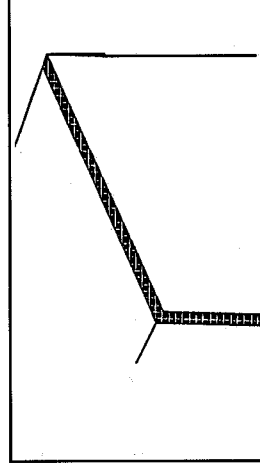

Fig. 9
13. Check both the horizontal and vertical alignment of the door with the unit (see Fig. 9)